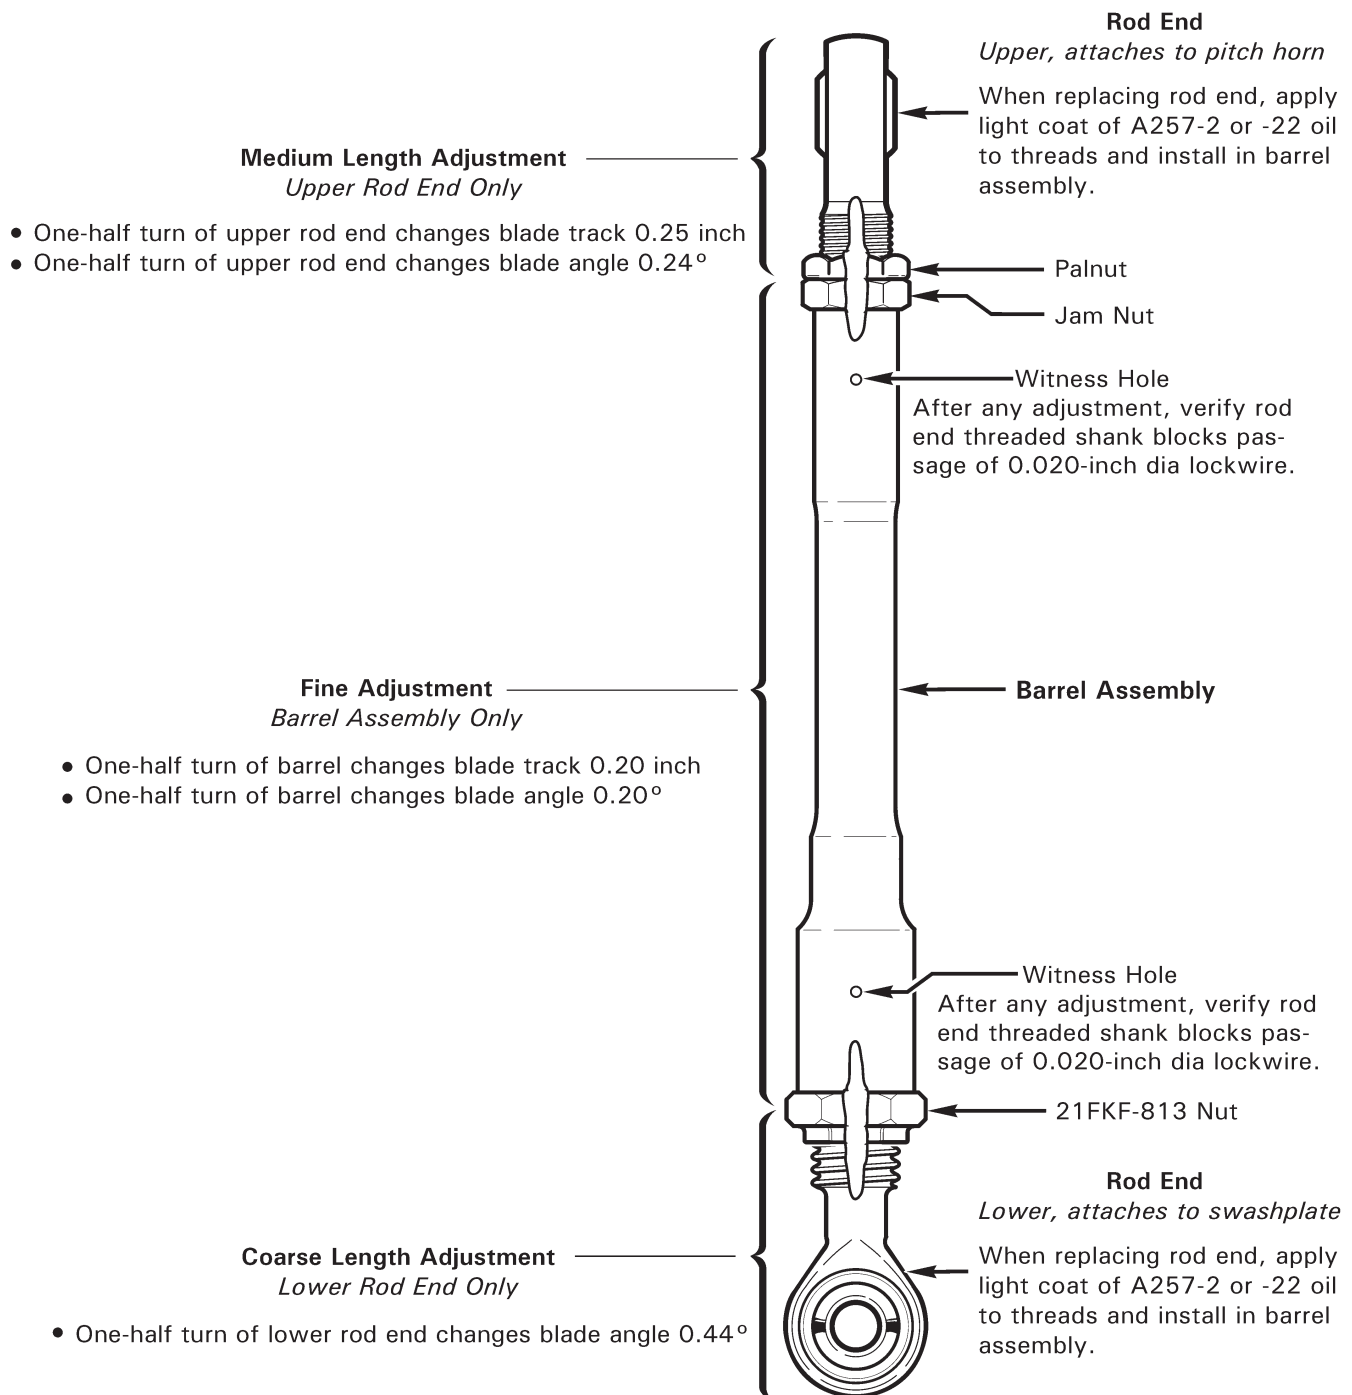

FIGURE 18-3A C258-5 MAIN ROTOR PITCH LINK
- i. Refer to Figure 18-3A. Using backup wrench on barrel assembly, loosen 21FKF-813 nut at lower rod end, and upper rod end palnut and jam nut.
- a. Refer to Figure 18-3A or 18-3B. Using backup wrench on barrel assembly or fitting, loosen upper rod end palnut and jam nut. Remove hardware securing rod end to pitch horn.
- i. Refer to Figure 18-3A. Using backup wrench on barrel assembly, loosen 21FKF-813 nut at lower rod end. Remove hardware securing lower rod end to swashplate.